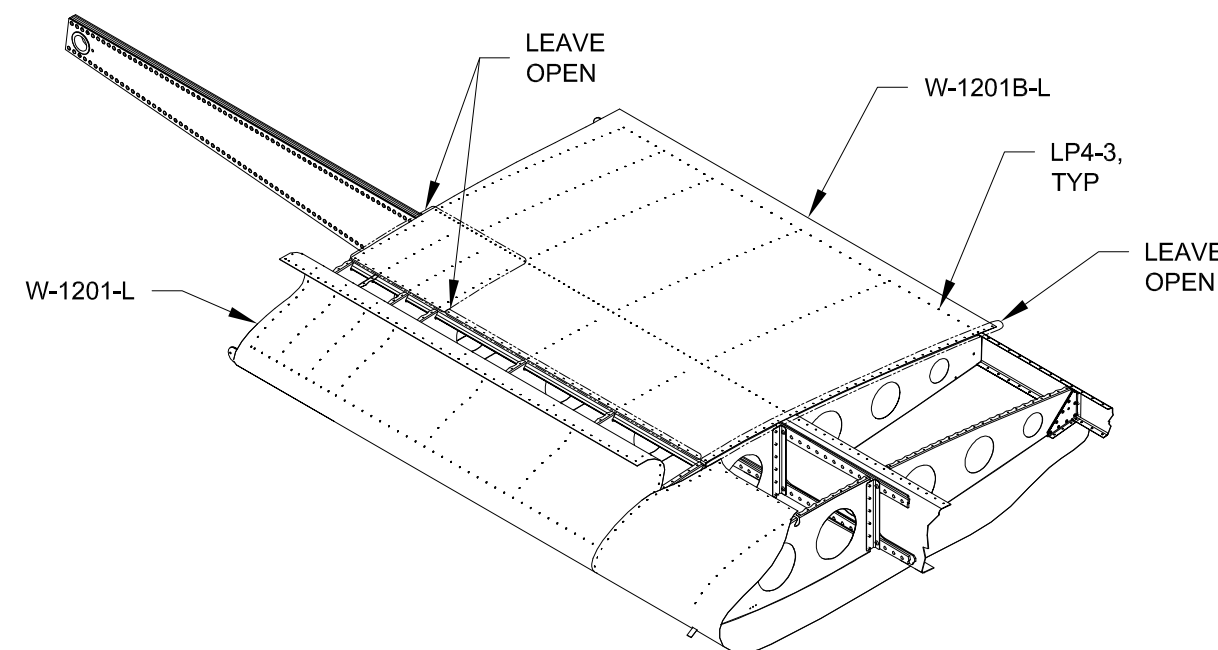

FIGURE 3: INBD UPPER WING SKIN INSTALLATION
Step 5: Position the W-1201B-L Inbd Upper Wing Skin on the wing skeleton as shown in Figure 3. The stiffening flange along the leading edge of the inbd upper wing skin should drop into the cut-outs in the W-1208 Nose Ribs when you lift the trailing edge of the inbd upper wing skin. Cleco then rivet the inbd upper wing skin to the skeleton leaving holes open as shown in Figure 3.